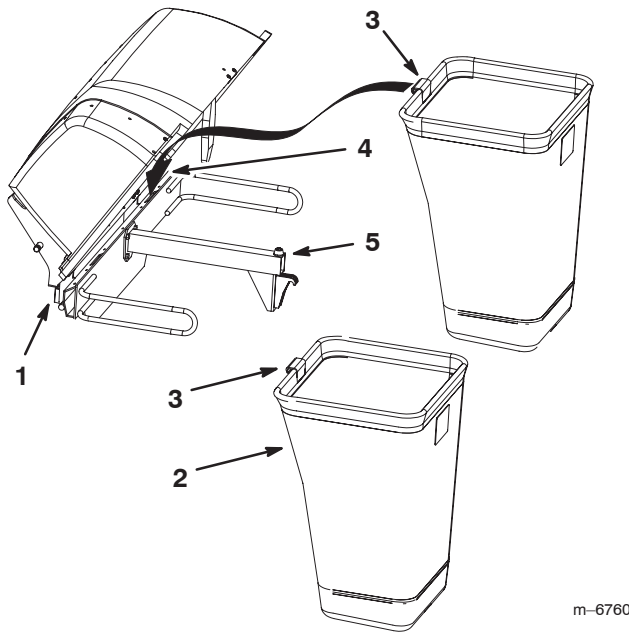

Figure 6
3. Install the bag tab into the notch in the hood assembly (Fig. 6). Do this for both bags.
Note: The bag will rest on the bagger frame (Fig. 6).